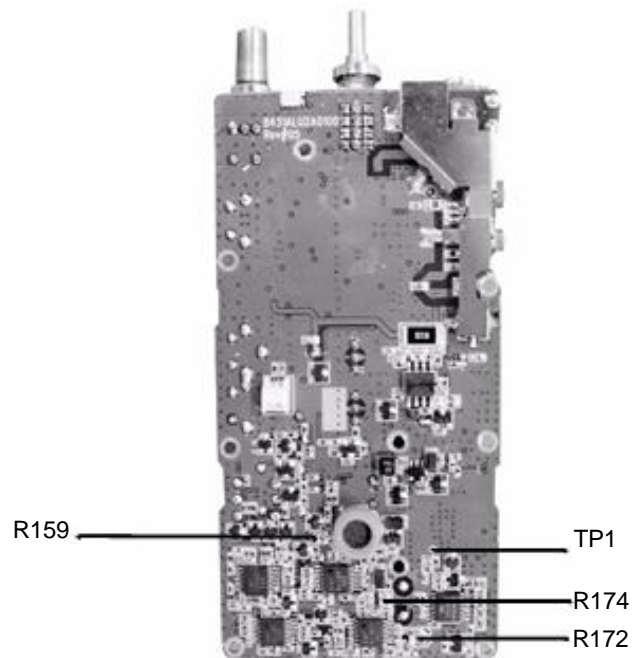
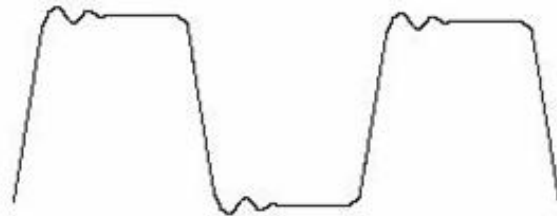

Figure 3-3 Top Side of PCB
Figure 3-4
5. Using the ceramic tool, adjust R174 (refer to Figure 3-3) to modulation balance as per Figure 3-4.
5. Using the ceramic tool, adjust R159 to tune maximum modulation between  $2.4 \pm 0.02\text{KHz}$  for narrow band or under 5KHz for wide band (refer to Figure 3-3).
2. Detect output voltage at test point TP1 (refer to Figure 3-3).